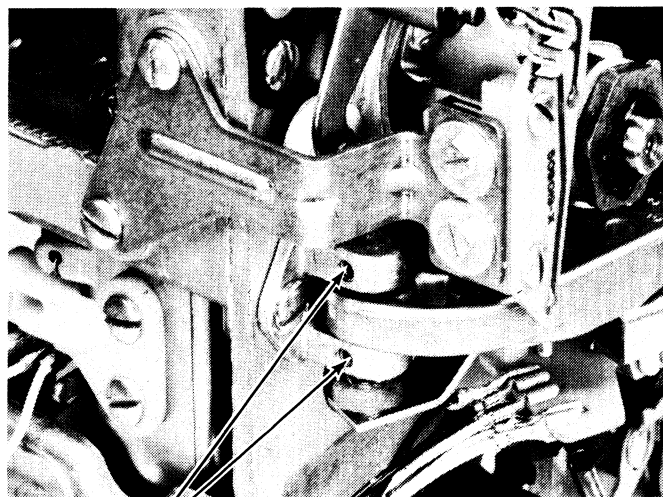

Figure 4-47. Shift Arm Removal (Printer Tilted Up)
3. Loosen the setscrews that hold the shift-arm pivot (No. 1, Figure 4-47).